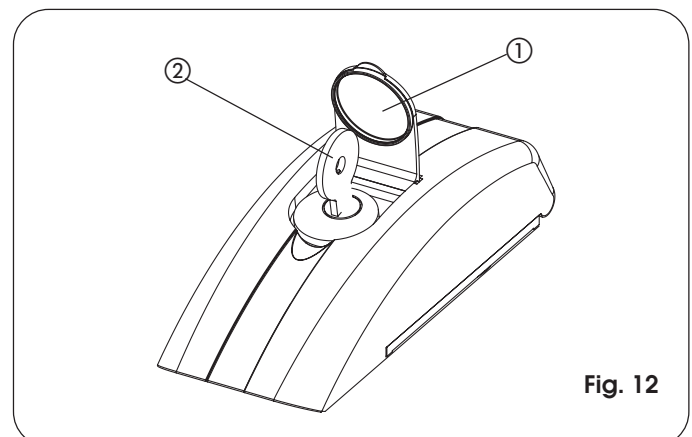

Fig. 12
- Lift the protective plug (Fig. 12, ref. ①) and fit the supplied key (Fig. 12, ref. ②).